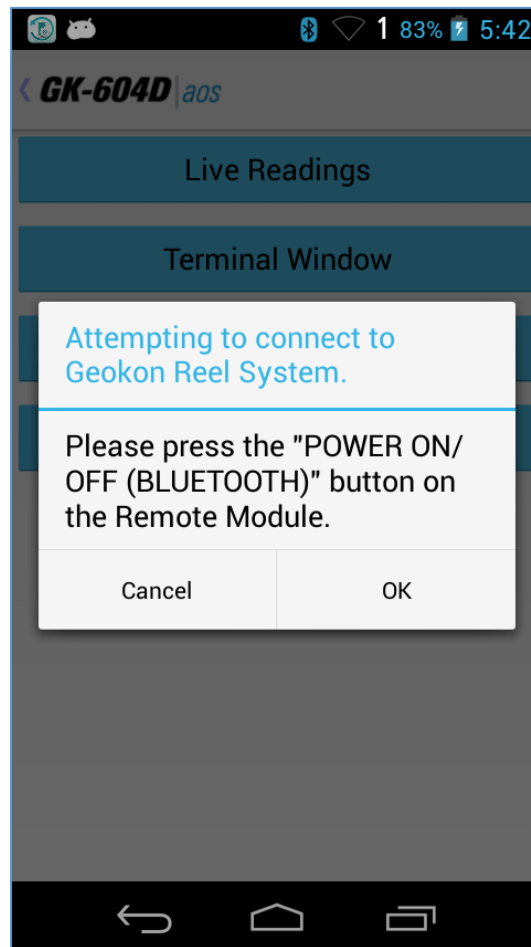
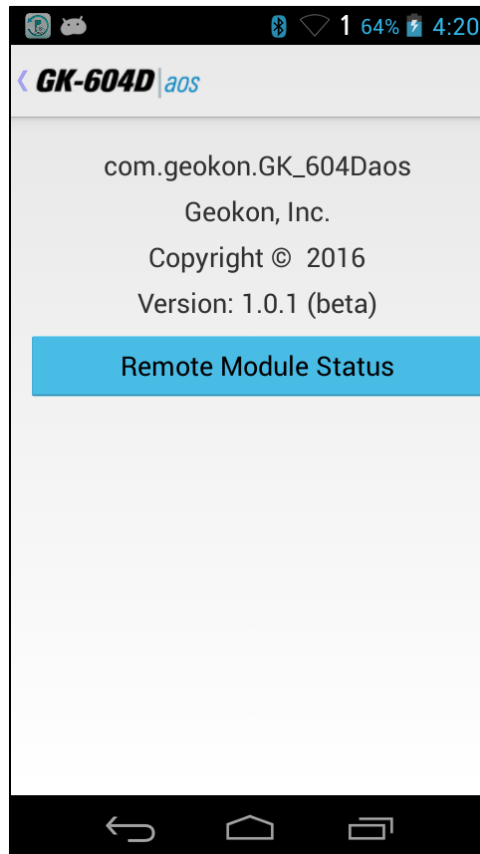

Figure 27 - Remote Module Power-On Reminder
Figure 42 - About GK-604D IRA
**Note:** When attempting to connect to the Remote Module, please ensure that the "Power On" button on the Remote Module has been pressed (blue light will be blinking) before tapping on the "Live Readings" menu item. Figure 27 shows a reminder to turn on the Remote Module before connecting.
This displays an information panel giving copyright information as well as the application version (see Figure 42). Tapping on the "Remote Module Status" button will display another screen reminding the user that a probe must be connected to a Remote Module and the Remote Module ready to connect (blue light blinking) (see Figure 27).